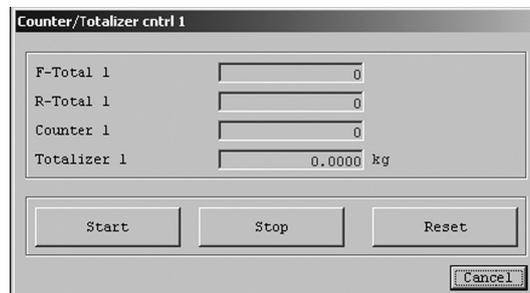

Fig.142
- ③ Cumulative totals include "F-Total", "R-Total", "Counter", and "Totalizer".
- ④ This window can be used to "Start", "Stop", or "Reset" the cumulative total. Note that "Start", "Stop", and "Reset" only affect the cumulative total, and do not work on the pulse output. Selecting "Reset" will cause the window to appear as shown in Fig. 142.